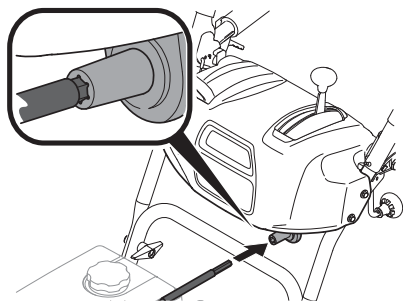

Figure 2-38
6. Insert hex end of flex shaft into chute control rod coupling under dash panel. See Figure 2-38.